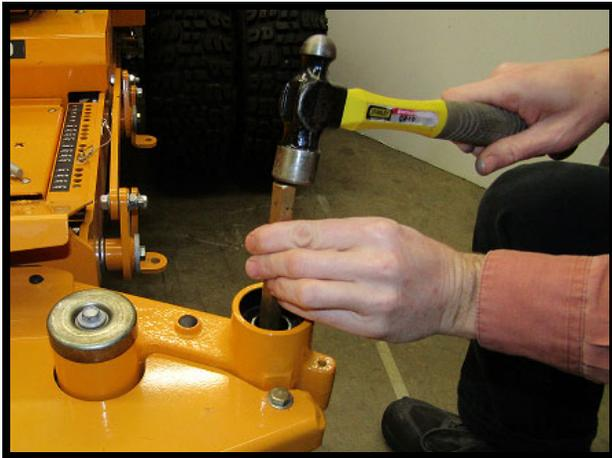

FIGURE 6
15. Remove the bottom bearing using a 5/16 Drift pin punch as shown in Figure 6.